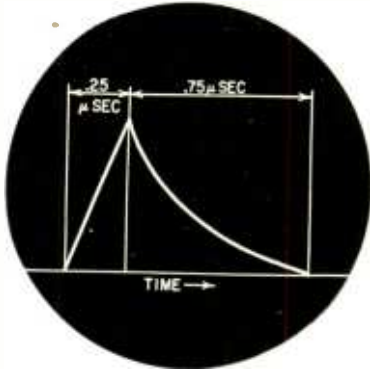

Fig. 2—The pulse developed by a Schmitt trigger circuit.
Similar to rectifier tests is the emission test. The setup is shown in Fig. 2-d. The METER SWITCH will be on AC, but again use a dc milliammeter. The plate and screen (if any) should be tested, but the emission contribution from grid or suppressor is so small you may as well ignore them, unless you have a very large tube. Most tubes are
This test, shown in Fig. 2-e, is often called a transconductance test. It is really not so. What is measured is the ac amplification of the tube. It simply tests the amplification of a tube at rated voltages and zero bias. However it is a useful test, because R can be changed to any contemplated value and the performance of the tube determined. Also you could use a resistor for self-bias and determine performance in a duplication of anticipated design values.
This test is one that strains even the multiple connections available in this box. Fortunately it is not made frequently. Resistor  $R_L$  (see Fig. 2-f) is the normal load resistance for the tube, the capacitor (C) should be at least  $0.5 \mu f$  and the choke (CH) must have about four times the impedance of the load resistor. Reading the alternating current, you can then calculate the power output from the formula  $W = I^2 R$ . If you have a power output meter, the load resistor is sometimes built in. Multimeters which have a power output scale do not, as a rule, have a load resistor built in; they are designed to match a 500-ohm load. In effect, they measure an ac voltage. The voltage applied to the grid is 1.1 volts and the bias battery should have the same voltage. If you do not need a screen voltage, you can use the PLATE VOLTAGE selector with the METER SWITCH on AC, and a
This test is shown in Fig. 2-g and is self-explanatory. The object is to apply approximately normal voltages to the tube and to listen for noise. To test for microphonics, tap the tube lightly while listening. If it rings and the ringing persists, even a little, after a tap, you have a microphonic tube.
This is probably the most used test, after emission and shorts. It (see Fig. 2-h) requires an ac milliammeter (or as before, an ac voltmeter across a precision resistor. The meter must be isolated from the dc so it does not deflect on direct current as some multimeters do. This is done by placing a large paper capacitor in series with the meter. Its impedance will be negligible for the small meter current, if you use at least  $2 \mu f$ ). The bias voltage is that specified by the manufacturer.
A check for a gassy tube (Fig. 2-i) is made with the specified plate voltage and the grid at the cutoff bias listed by the manufacturer. You can use self-bias, but it is better to use an external bias in the grid circuit (use the binding posts marked GRID).
You will seldom measure interelectrode capacitances. It requires a sensitive capacitance bridge. However, the setup is shown in Fig. 2-j.